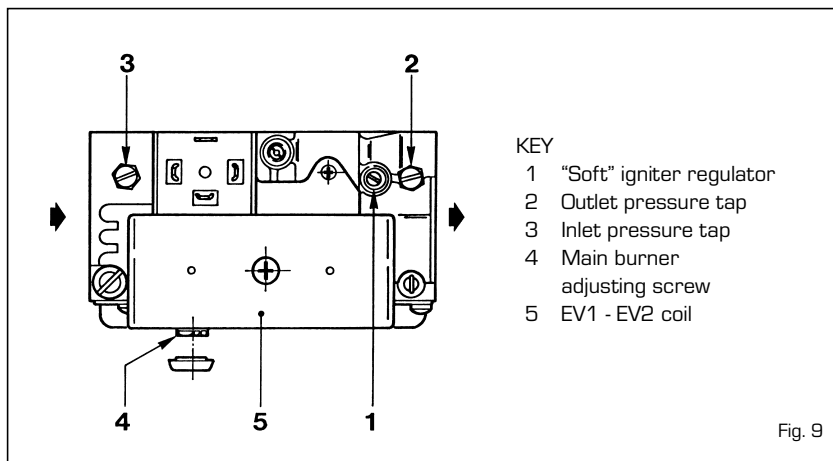
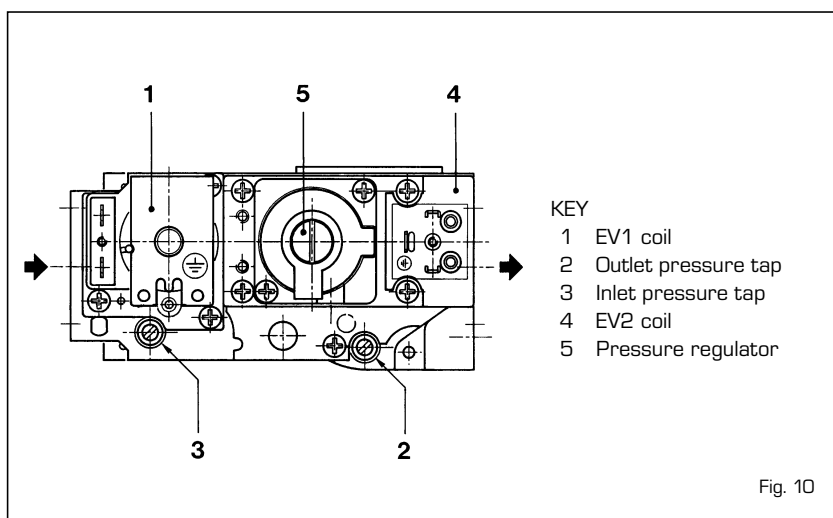

Fig. 9
Fig. 10
Standard "RX 19-26 CE IONO" and "RX 19-26 PVA CE IONO" boilers with electronic ignition feature a SIT 830 TANDEM gas valve (fig. 9).
The electronically ignited "RX 37+55 CE IONO" boilers are equipped with the HONEYWELL VR4605C gas valve (fig.10).
- Remove the plug on pressure regulator and tighten the adjusting screw (2 fig. 8 - 4 fig. 9 - 5 fig. 10).